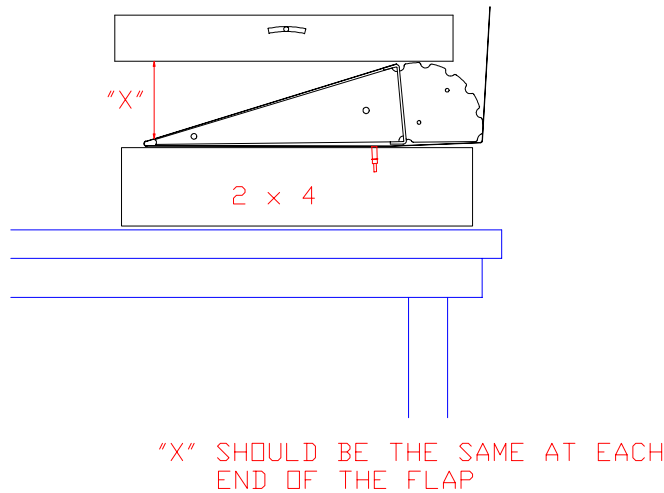

Figure 6.4.2
- 5) Prepare the work surface for the remainder of the assembly by positioning 2 x 4s to support the Flap. Figure 6.4.2.
6) Lay the Flap right side up on the 2 x 4 supports. Make sure there are no clecos where the Flap is supported. Weigh the flap down at the support locations (paint cans work well) and level the structure. "X" should be the same at each end of the Flap. Figure 6.4.2.